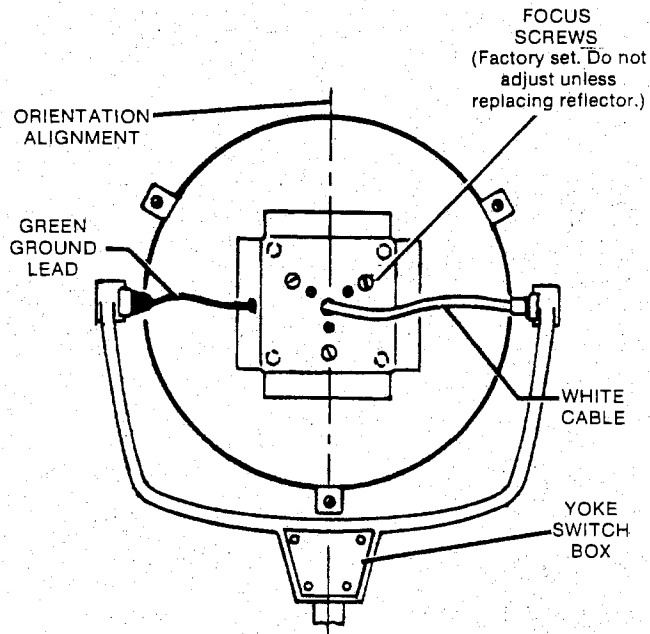

FIGURE 6-8. REFLECTOR ORIENTATION
5. Install new reflector and reassemble lighthouse in reverse order of disassembly. Refer to Figure 6-8 for orientation of components.